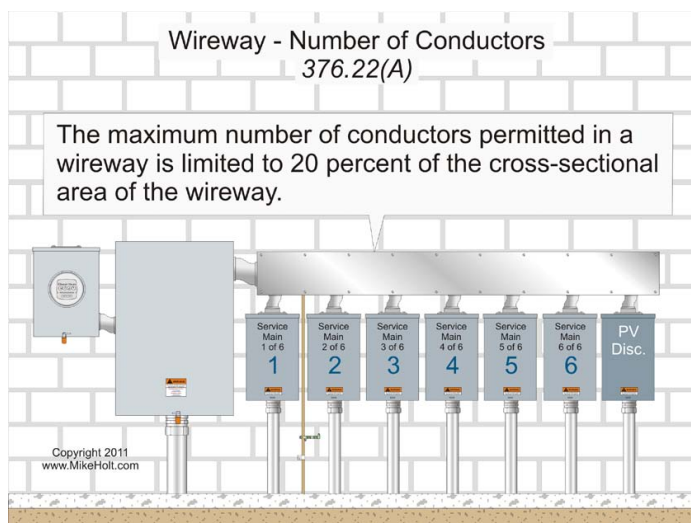

Figure 5-24
**(a) Number of Conductors.** The maximum number of conductors permitted in a wireway is limited to 20 percent of the cross-sectional area of the wireway. **Figure 5-24**